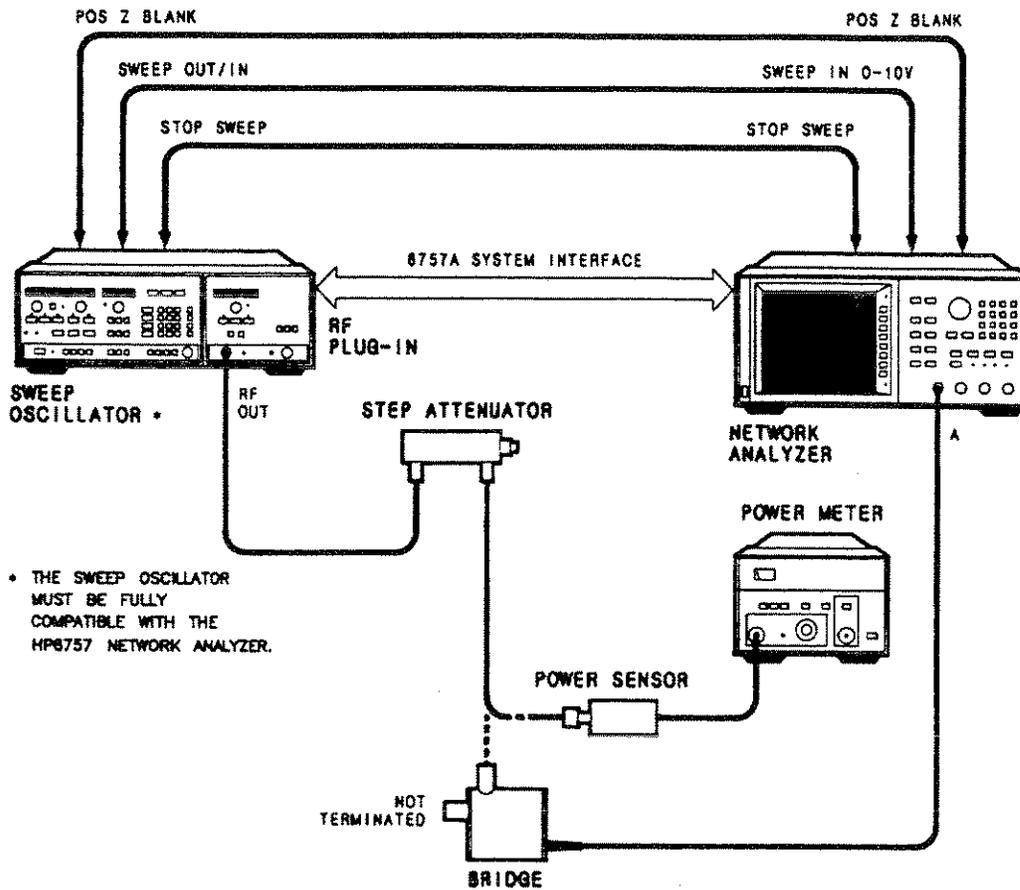

Figure 5-1. Adjustment Test Equipment Setup
1. Connect the equipment as shown in Figure 5-1. Turn on the analyzer, source and power meter and allow 30 minutes for warm-up.